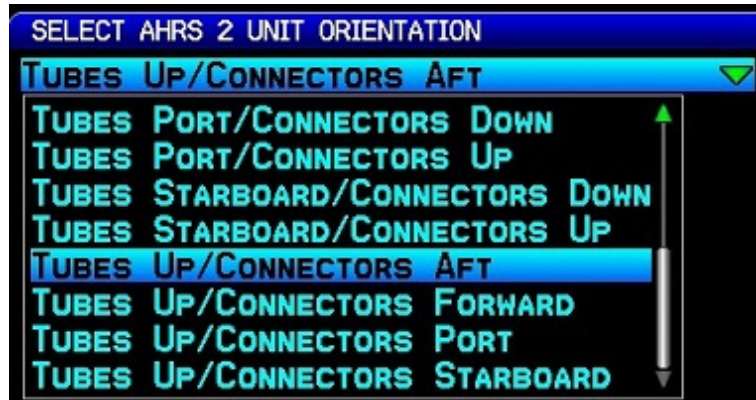

Figure 17-2 AHRs Orientation Selection
- Mount the GSU 25 with the connectors aligned within 1.0 degree of either the longitudinal or lateral axis of the aircraft. The direction of the unit will be accounted for during the calibration procedure as shown in Figure 17-2.